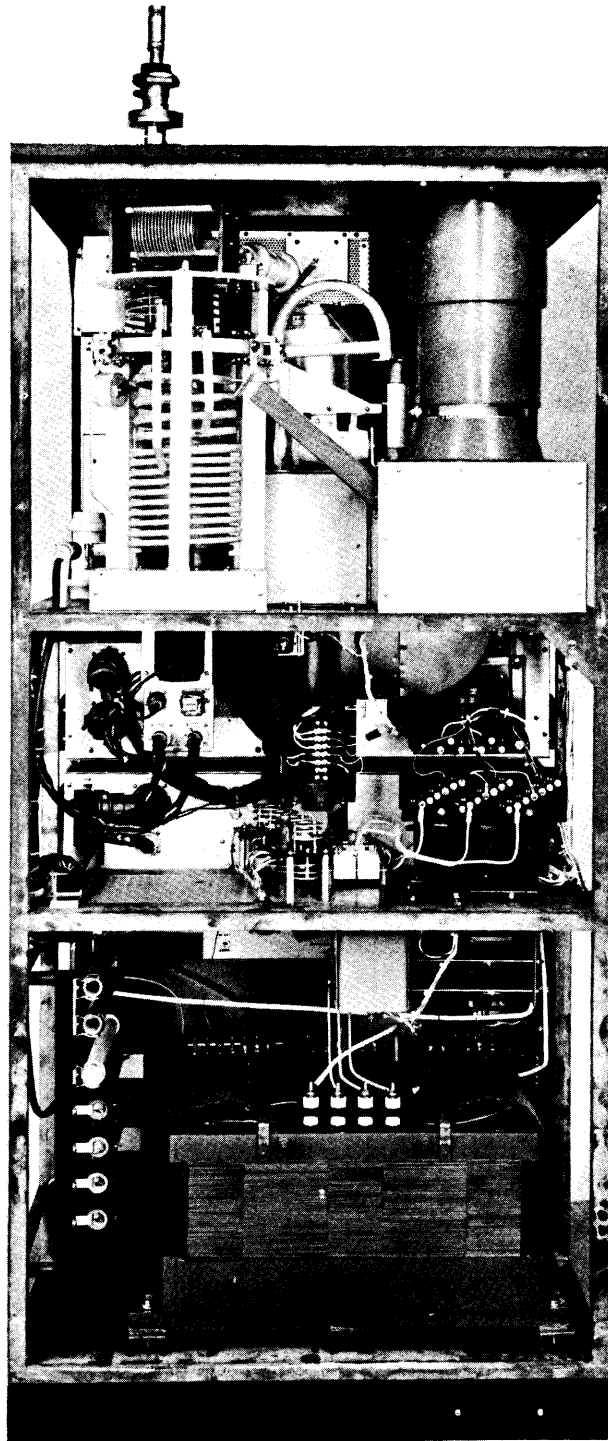

Figure 5-2 HFTM-10KJ, Rear View
- c. HFTM-10K Rear View (figure 5-2).